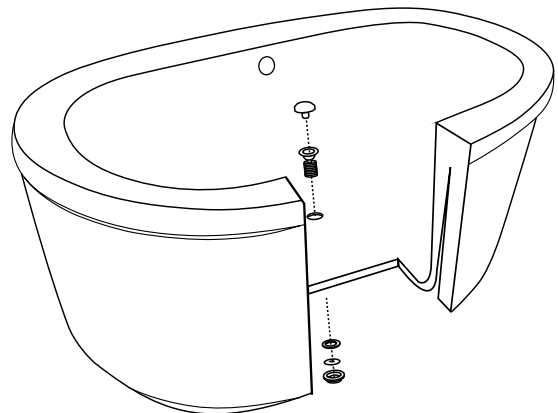

Figure 4
9. Attach the Drain Body Nut on the Drain Body and tighten until the Nut and Washer have created a seal with the bottom of the bathtub. **DO NOT OVERTIGHTEN** (figure 4).